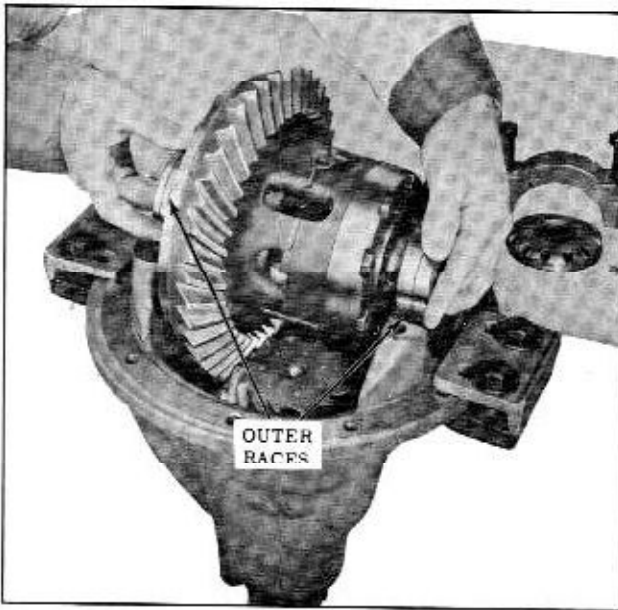

Fig. 6-16 Removing Differential Case (Anti-Spin Shown)
7. Lift the differential case from the carrier while holding the side bearing outer races against rollers. (Fig. 6-16) Remove bearing outer races.